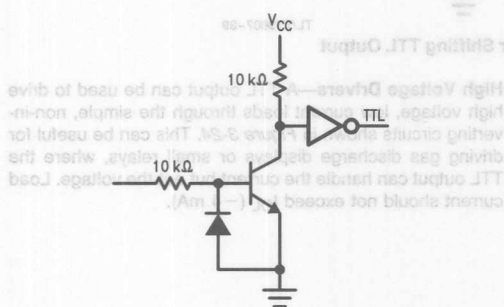

FIGURE 3-25. Transistors Driving TTL
**Transistors Driving TTL**—It is sometimes difficult to drive the relatively low impedance and narrow voltage range of TTL inputs directly from external sources, particularly in a rough, electrically noisy environment. The circuits shown in Figure 3-25 can handle input signal swings in excess of  $\pm 100V$  without harming the circuits. The second circuit has input RC filter that suppresses noise. Unambiguous TTL voltage levels are generated by the positive feedback (Schmitt trigger) connection.